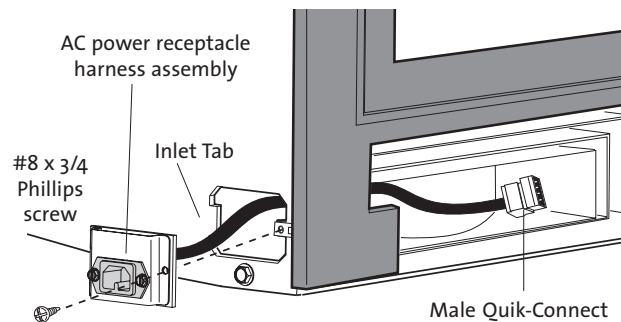

Figure 10. AC power receptacle lead routing.
3. Determine to which side the blower power cord will be routed. Insert the AC power receptacle lead through the appropriate inlet in the side of the firebox. See fig. 10. Engage the receptacle bracket with the tab in the inlet opening and secure with one of the #8 x 3/4" phillips screws found in the hardware bag.